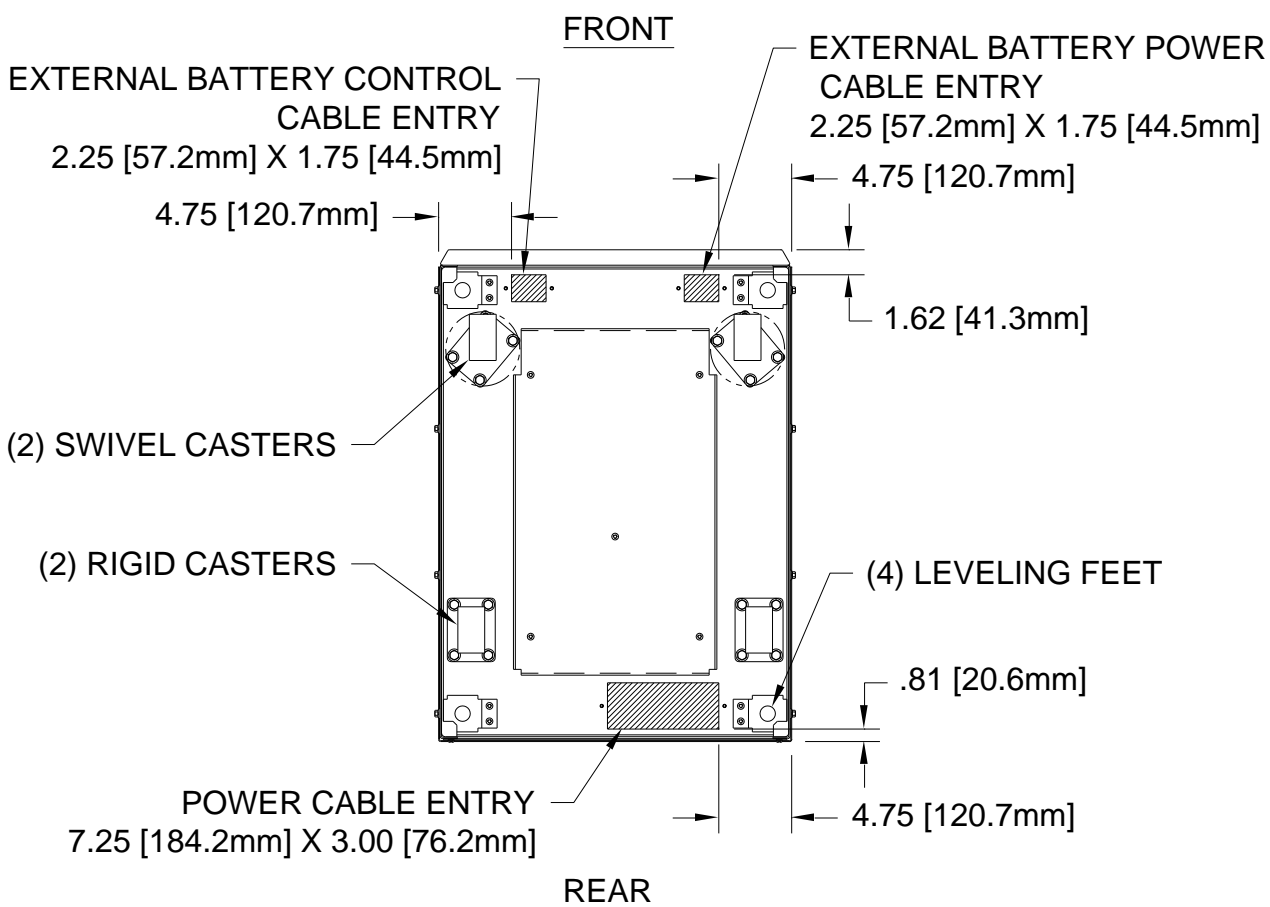

Figure 6-Bottom View
6. Conduit landing plates are located at the rear bottom of the base to accommodate bottom wire entry to the cabinet (see figure 6).